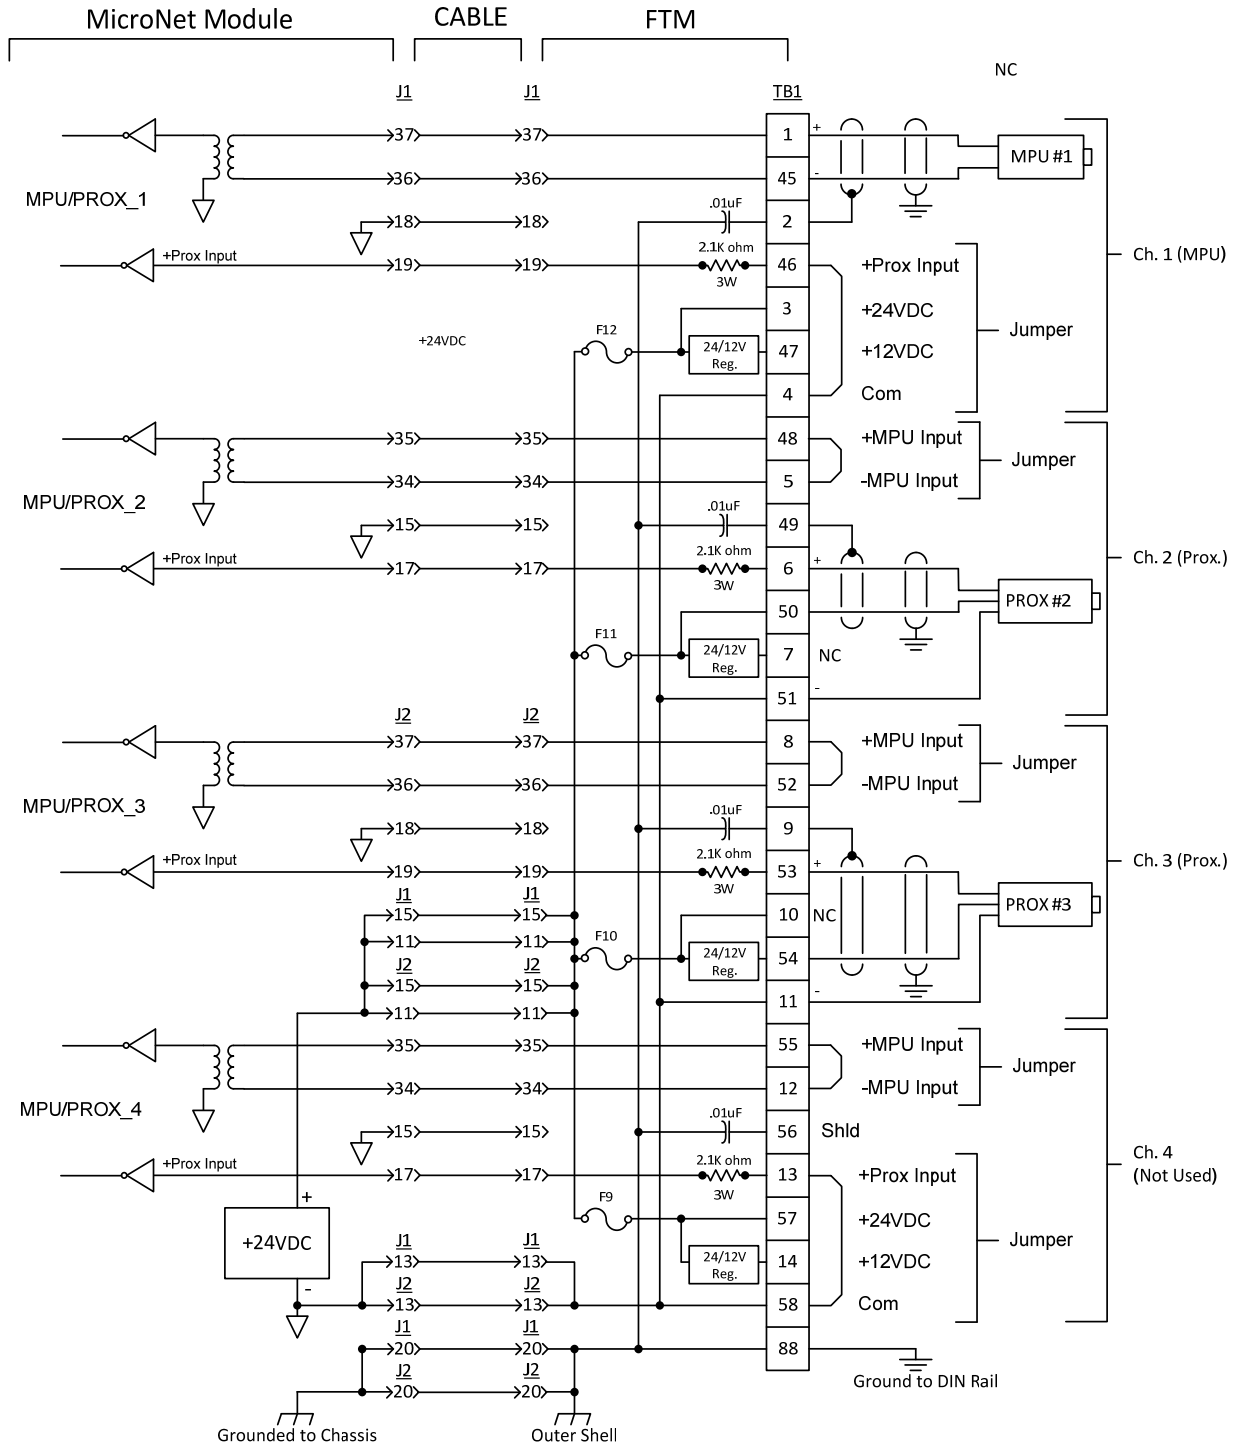

Figure 9-16—MPU/Proximity Interface Wiring to the Analog Combo FTM
**IMPORTANT** When a speed sensor input channel has been wired as either MPU or proximity probe input, the unused MPU/Prox must be jumpered at the FTM. When an input channel is not used, both the MPU and Prox inputs must be jumpered. See example in Figure 9-16.
A proximity probe may be used to sense very low speeds. With a proximity probe, speed can be sensed down to 0.5 Hz. When interfacing to open collector type proximity probes, a pull-up resistor is required between the supplied proximity probe voltage and the proximity probe input to the FTM. Individually fused 12 Vdc and 24 Vdc sources are provided with each speed input to power system proximity probes (100 mA fuses, located on the FTMs, are used). External pull-up resistors are required when interfacing with an open collector type proximity probe. See Figure 9-16 for MPU/proximity probe wiring example. Channel 1 shows an MPU connection, channel 2 shows a 24 V proximity connection, and channel 3 is an example of a 12 V proximity connection. Always jumper the unused MPU connection to eliminate possible noise interference when connecting a proximity probe.
6. Verify that any unused MPU/Prox inputs are jumpered per Figure 9-16.